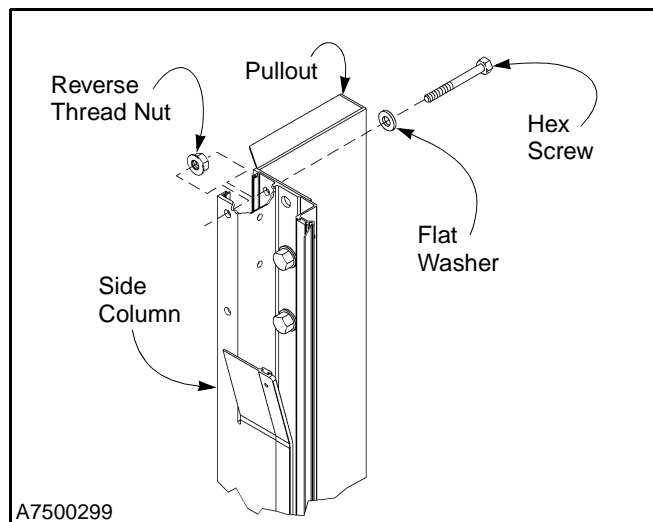

Figure 14
- Install two 1/2-13 x 6-in. serrated-flange hex screws, 1/2-in. flat washers and nuts through the top of each pullout/side column assembly. As each screw is passed through the side column, reverse thread a nut on the end of each screw. (See Figure 14.)